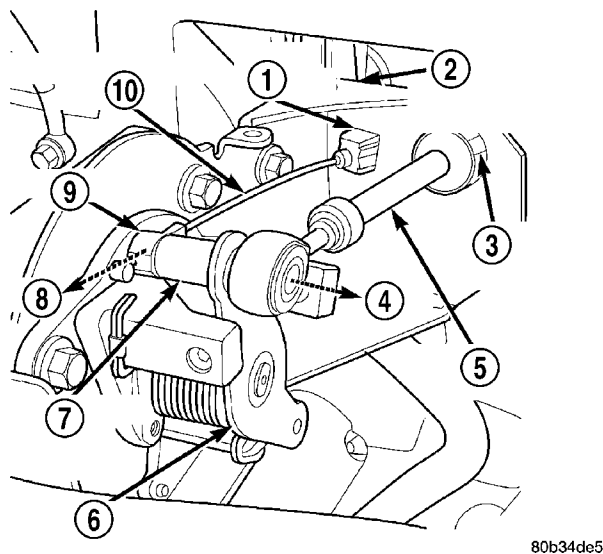

Fig. 7 SERVO CABLE AT THROTTLE LEVER — 5.9L DIESEL
(1) Disconnect both negative battery cables at both batteries.
(2) Remove cable/lever/linkage cover. Refer to Speed Control Servo Removal/Installation.
(3) Remove (disconnect) servo cable from servo. Refer to Speed Control Servo Removal/Installation.
(4) Using finger pressure only, disconnect end of servo cable from throttle lever pin by pulling forward on connector while holding lever rearward (Fig. 7). **DO NOT try to pull connector off perpendicular to lever pin. Connector will be broken.**
(5) Squeeze 2 pinch tabs (Fig. 7) on sides of speed control cable at mounting bracket and push cable rearward out of bracket.
(6) Remove cable from vehicle.